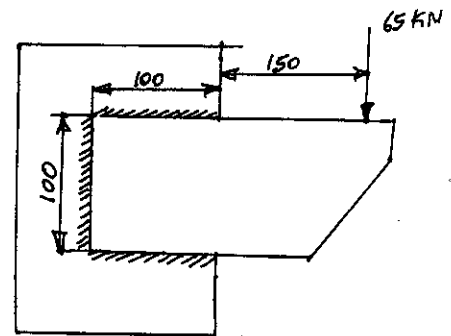

Fig. Q7(a)
- 7 a. Determine the size of the weld required for an eccentrically loaded weld as shown in Fig. Q7(a). Assume steady load and fillet weld. (08 Marks)